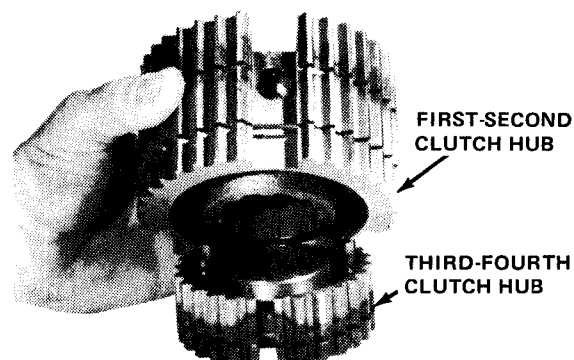

Fig. 6-38 Supporting First-Second Clutch Hub
(1) Place Third-Fourth clutch hub on work bench.
(2) Place First-Second clutch sleeve over Third-Fourth hub with shift fork groove facing downward (fig. 6-38).